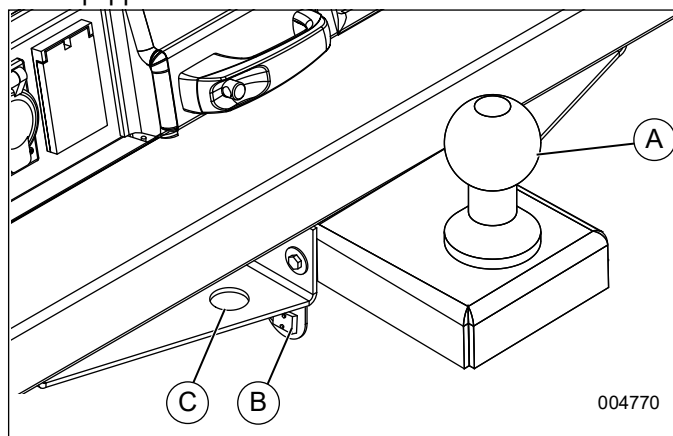

Figure 3-22. Tandem Tow
See Figure 3-22. The tandem tow hitch option (A) allows the operator to tow a second MLTB in series behind the unit equipped with the hitch.